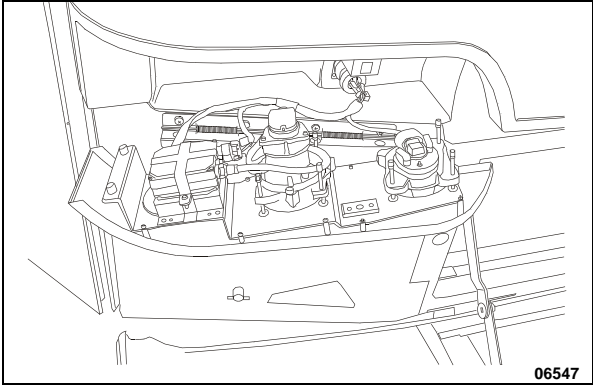

FIGURE 69: OPENING HEADLAMPS ASSEMBLY
Horizontal and vertical aiming of each headlamp module is provided by two adjusting screws that pivot the module in the housing for proper alignment Figure 69).
2. Remove the screw fixing the headlamps assembly, then tilt headlamps assembly down (Figure 69).